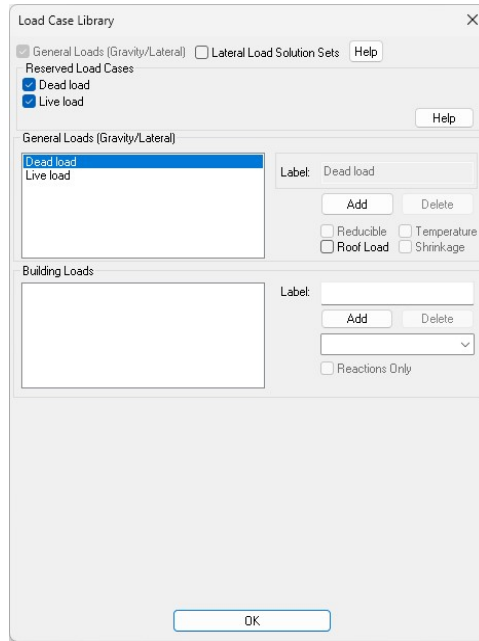

Figure 2.3-1 – Load Case Library
- Click on the **Load Cases**  icon. This will open the *Load Case Library* window from **Figure 2.3-1**.
- By default, the program already adds *Dead load* and *Live load* cases as shown in **Figure 2.3-1**. These are default program load cases that cannot be modified. In our project we are only utilizing the default load cases of the software. If additional load cases are needed refer to the help menu of the program for instructions on how to add a new load case.